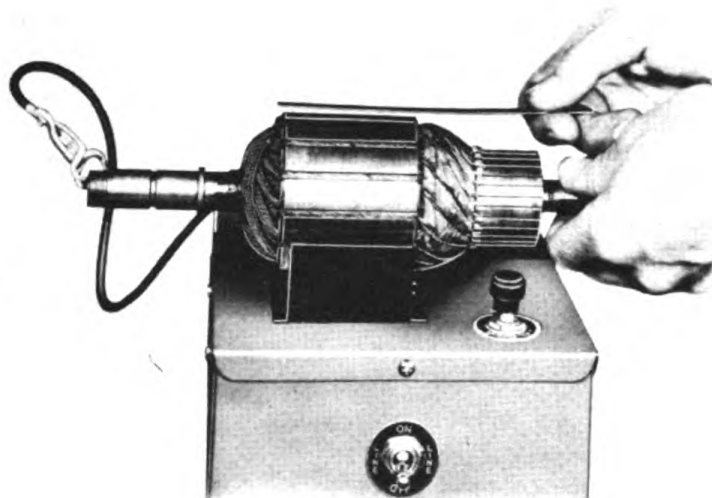

Figure 238. Testing for
- c. An open circuited armature is often easy to detect, since this condition produces badly burned commutator bars. The bars connected to the open armature windings soon burn in operation since every time they pass under the brushes they interrupt a flow of current so that heavy arcing occurs. If the bars are not too badly burned, the armature may often be saved. See figure 238.